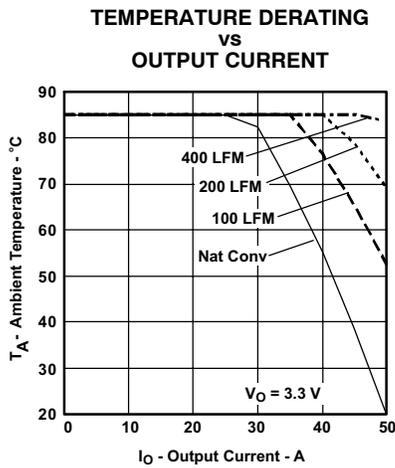
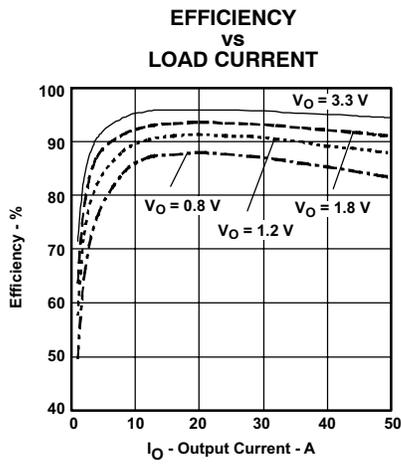
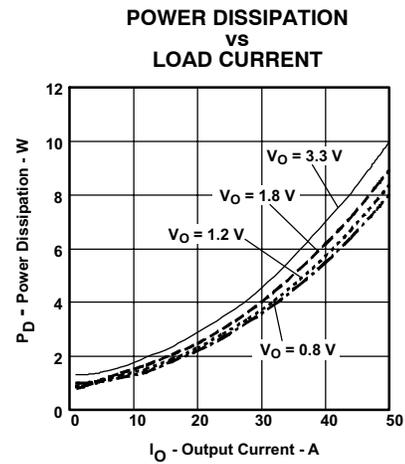

Figure 3.
Figure 5.
Figure 6.
- (2) The temperature derating curves represent the conditions at which internal components are at or below the manufacturer's maximum operating temperatures. Derating limits apply to modules soldered directly to a 4-mm x 4-mm, double-sided PCB with 1-oz. copper. For surface mount packages (AS and AZ suffix), multiple vias (plated through holes) are required to add thermal paths around the power pins. Please refer to the mechanical specification for more information. Applies to Figure 3 and Figure 6.
- (3) The electrical characteristic data has been developed from actual products tested at 25°C. This data is considered typical for the converter. Applies to Figure 5 , and Figure 6.